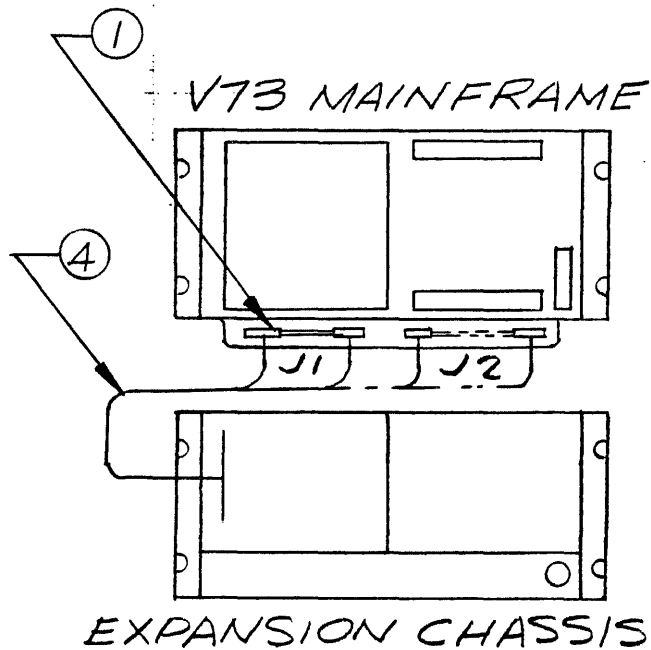

FIGURE 4
5. FOR TYPICAL INSTALLATION INTO A V70 SERIES SYSTEM SEE FIGURES 4 OR 5. SEE SYSTEMS MEMO FOR DETAIL.